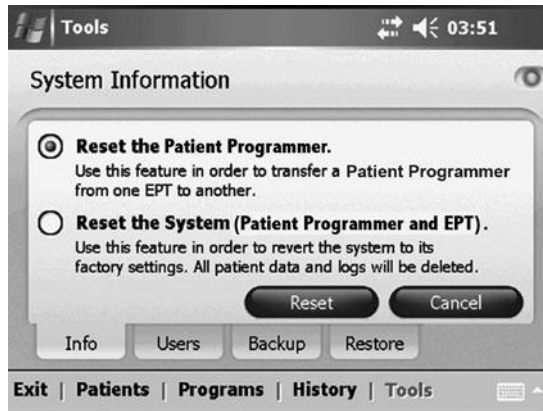

Figure 8-2. Select a reset option, and then press “Reset.”
3. Select “Reset the Patient Programmer,” and then press “Reset.” See Figure 8-2.
1. Make certain the clinician programmer is in online mode. Select “Reset the System (Patient Programmer and EPT),” and then press “Reset.” See Figure 8-2.